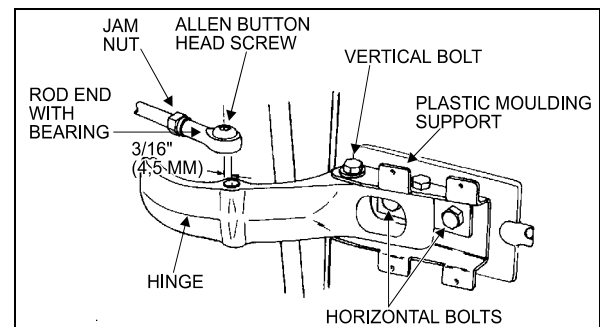

FIGURE 21: UPPER DOOR HINGE
2. Remove the Allen button head screw and the washer retaining the rod end with bearing to the upper hinge. See figure 21.